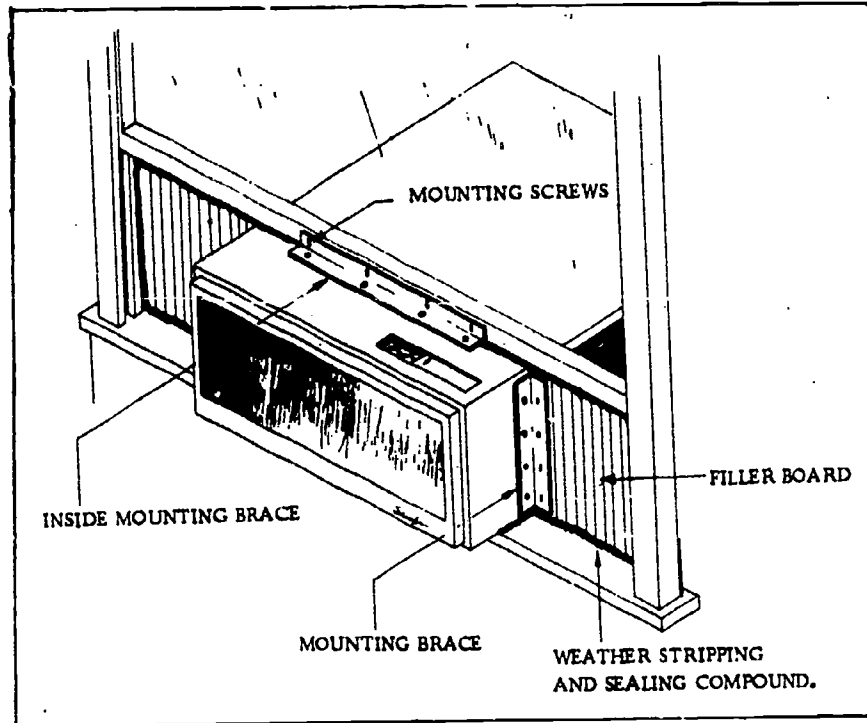
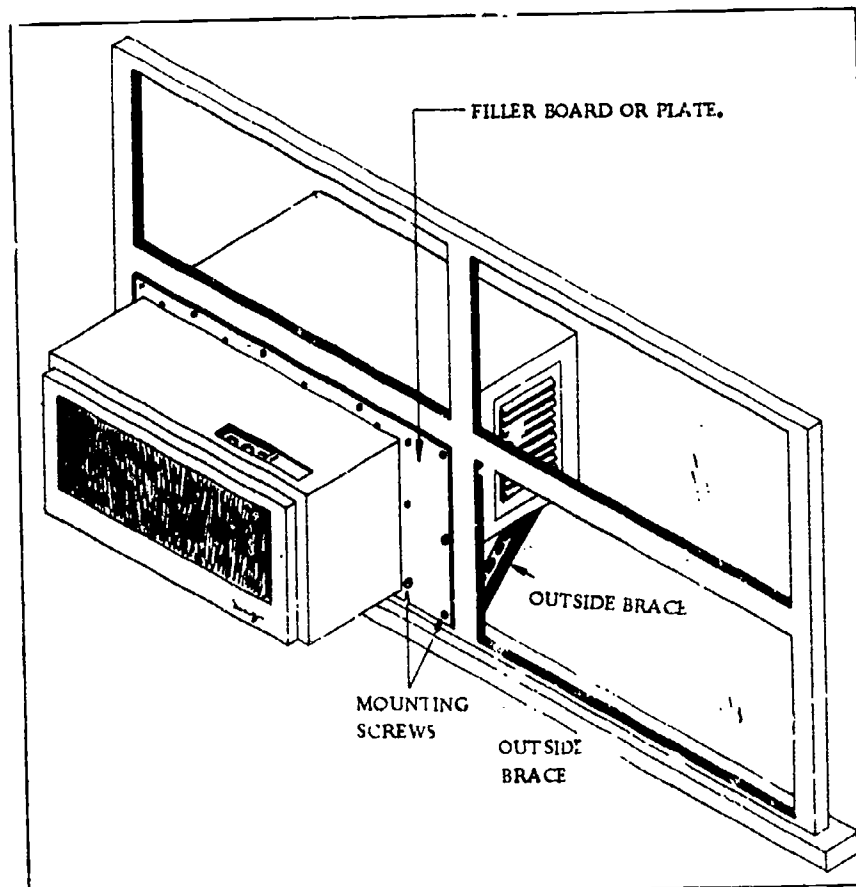

Fig 4-1. Unit installed in double-hung window.
Fig 4-2. Air conditioner installed in a casement window.
b. Installation. When a unit is installed in a window, metal plates, gaskets, sealing compound, weather stripping, brackets, and braces will be necessary for proper installation. The first step is to remove the unit from its housing or cabinet. It will slide out easily. Be careful when handling the unit and do not lift or carry it by any of its components other than the base. Do not use tubing or coils as a handhold. Next, place the housing in the window opening and secure it in place. Be sure that all braces and brackets are securely fastened. Next, the filler board or metal plates must be put in position. Make sure the filler boards do not extend above the top of the cabinet, but are level with it so that the window will close flush on the cabinet and filler boards. Check and make sure that the cabinet tucks approximately 1/4" to the rear so that the unit will drain properly. Make any adjustments before the unit is placed in the cabinet. Once the cabinet is securely in place, close the window flush with the top of the cabinet and make any further necessary adjustment. Slide the unit into the cabinet and install control knobs and front cover. The unit should slide into the cabinet freely. If it doesn't, do not force it, because the cabinet has not been installed properly and it is not placed squarely in the window. Use a level to square up the cabinet installation. Once the entire unit is in the window, check for any air gaps around the installation. They must be sealed with caulking or sealing compound. If the unit is installed in a double-hung window, there will be an air gap between the upper and lower sash. This space should be filled with a sponge-rubler strip. When installing a unit in a casement window, you use basically the same procedure. However, the glass will have to be removed from the window and the braces and fillers will have to be installed a little differently. Window units should be hooked up electrically on a separate circuit, if possible. Once the unit is in the window and plugged in, it is ready for operation. Figure 4-1 shows a unit installed in a double-hung window; figure 4-2 shows a unit installed in a casement window. Each manufacturer includes instructions for installing his particular units. Follow these instructions carefully as each manufacturer has different procedures for installation, although the basic principles are the same.